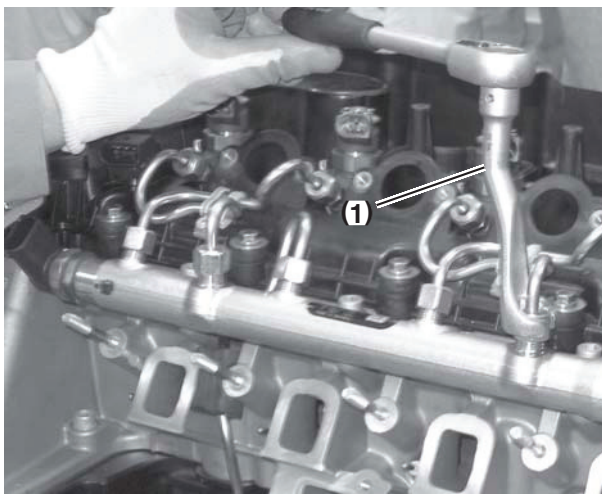

Figure 6-19
5. Loosen union nuts on high-pressure fuel line(s) using special tool OEM No. 13 5 020 (or similar) (Figure 6-19, (1)).